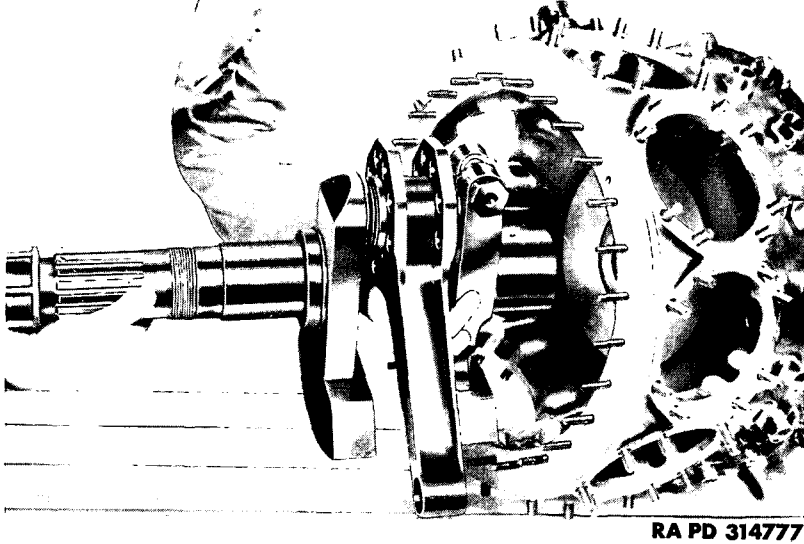

Figure 209 – Positioning Crankshaft for Installation
a. Install Crankshaft and Master Rod Assembly. Place main crankcase section on bench with opening for No. 9 cylinder at bottom. Lubricate crankshaft rear journal. Lift assembly, and insert it in main crankcase section with counterweights opposite the No. 8 cylinder opening and the master rod pointing into the No. 1 cylinder opening (fig. 209). Insert crankshaft assembly into crankcase section very carefully, twisting it slightly so that the counterweights clear the opening. Make sure that the rear main bearing journal enters the bearing freely without forcing. If assembly is installed carelessly, the rear main bearing may be damaged. Place crankshaft gear on end of crankshaft so that holes in gear and crankshaft line up. Install eight square-headed cap screws. Tighten screws securely (fig. 210).